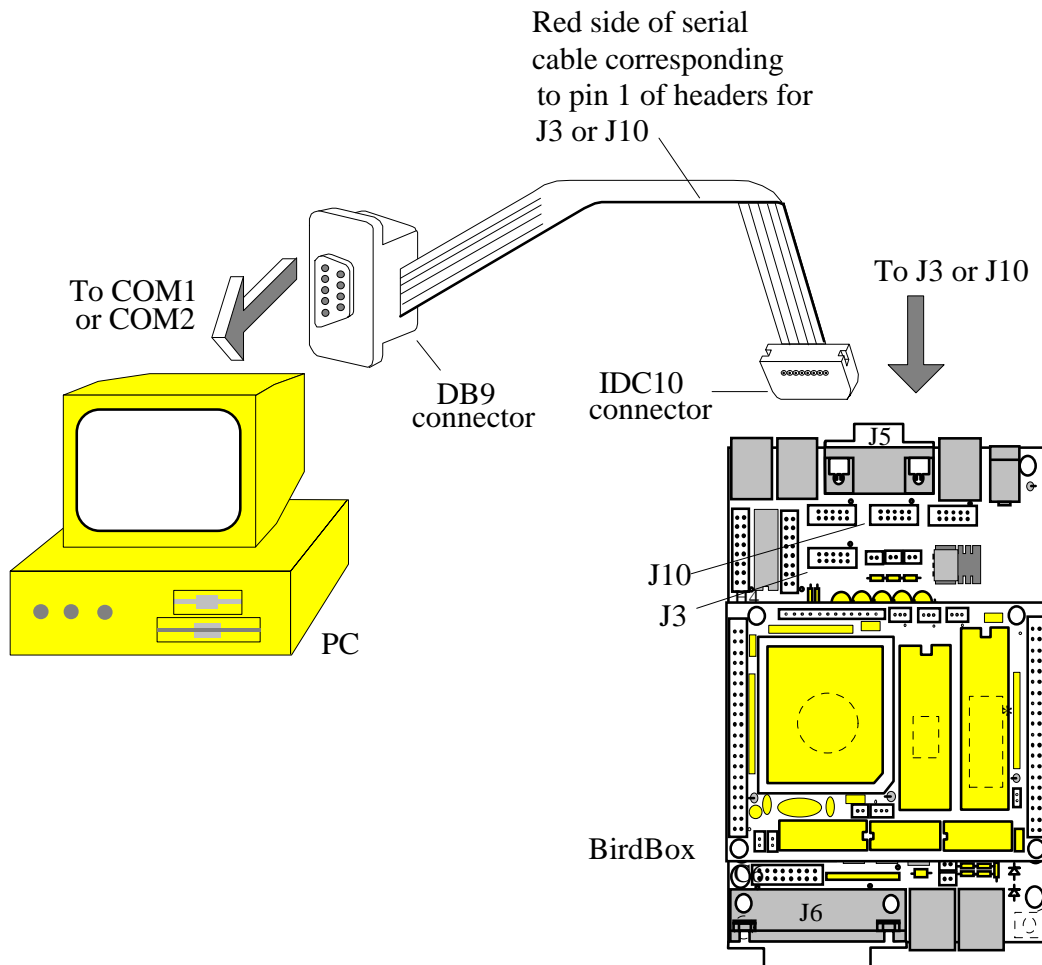

Fig. 2.2. Connection of BirdBox with the PC
2. Plug the IDC 10-pin connector of the serial cable in J3 of BirdBox, making sure that the red side of the cable corresponds to pin 1 of J3, and connect the DB9 connector of the cable to PC serial port COM1 or COM2 (whichever COM you selected when installing TERN's EV-P or DV-P, with default being COM1) (Fig. 2.2).